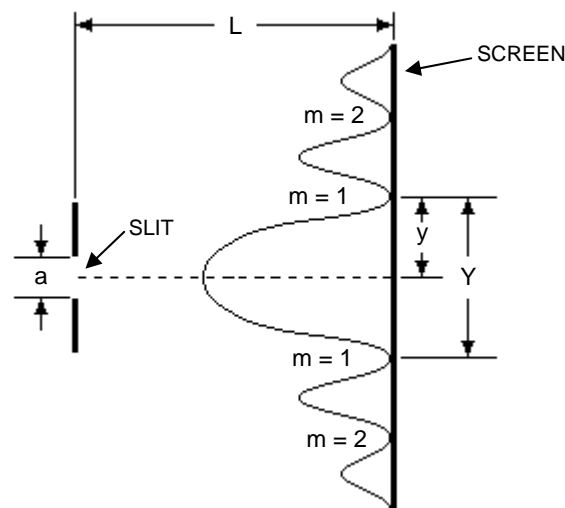

FIGURE 3 – Single slit diffraction
There is also an interference effect when there is only one slit. This is called *diffraction*. In this situation the light interferes with itself to produce bright and dark fringes on the screen. The main difference in the pattern is that the central bright spot for one slit is twice as wide as the central bright spot for two slits. See **Figure 3**. There are other differences but they will be left for you to discover during the lab. Also, the width of the slit is **a**. **NOTE:** This is not the distance between the slits, like for two slits. For diffraction you will be using the *dark fringes* as reference points when you are taking data.
- Measure the distance, **Y**, from one dark fringe to the other for the same order number. See **Figure 3**. Place these values in the chart.